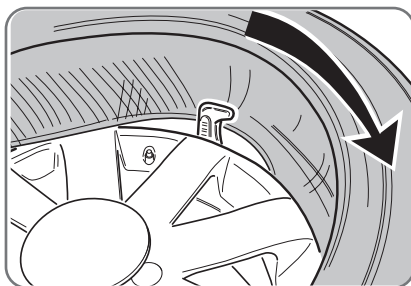
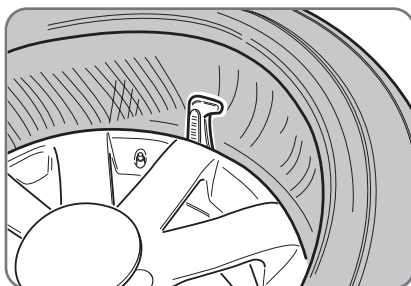

Fig. 6.45
Fig. 6.46
- Keep pressed down slightly the section of the tyre with the lower bead not yet inserted in the rim and press on the pedal (Fig.6.45) to start the rotation until the complete insertion of the first bead (Fig.6.46).